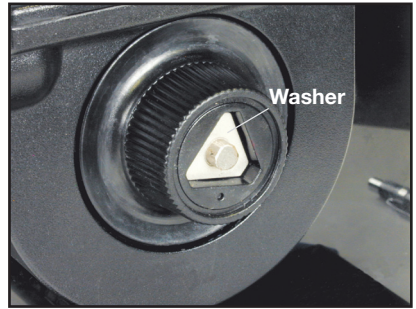

Figure 9 - Slide Washer into Recess
15. Place the Dial Washer onto the Spindle and slide the washer down into the triangular shaped recess of the Dial until the washer is fully seated in the recess. (See Figure 9.)